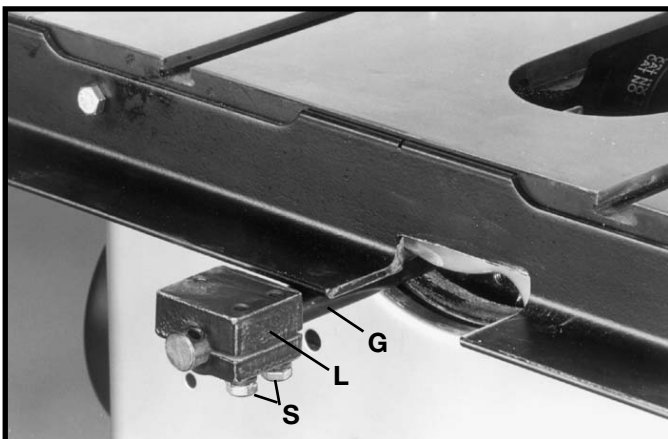

Fig. 29
7. Assemble lower bracket (L) Fig. 29, to rod (G) and loosely tighten with two one-inch long hex head screws (S) and lockwashers from underneath bracket (L).